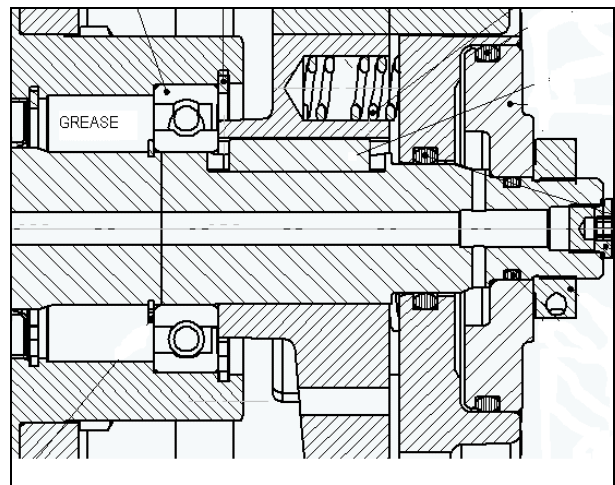

Figure 3
7. Lightly lube ID and OD of bearing with Mobilifluid 424 or similar oil. Thread ½-13 rod into shaft. Use a bearing press fixture that contacts the inner bearing race. Install bearing and fixture over threaded rod. Refer to Figure 3 for orientation.